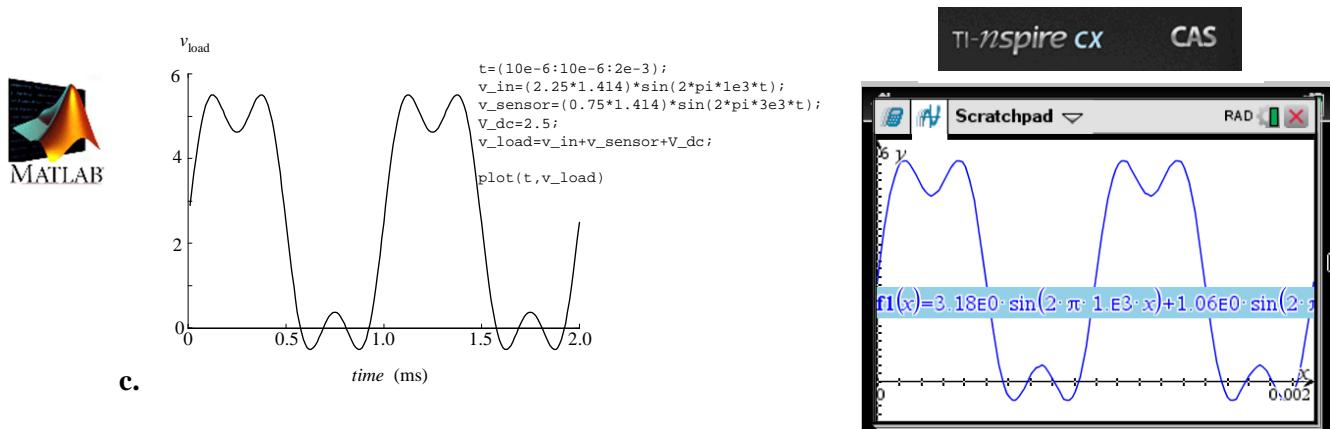

Figure 2-17 Plot and MATLAB commands for Example 2-4
- The plot of this composite wave is shown in Figure 2-17. It looks much more like a square wave than a sine. Certainly just adding $2.25 \text{ V}_{\text{rms}} + 0.75 \text{ V}_{\text{rms}} + 2.5 \text{ V}_{\text{dc}} = 5.5 \text{ V}$ gives an entirely incorrect result.